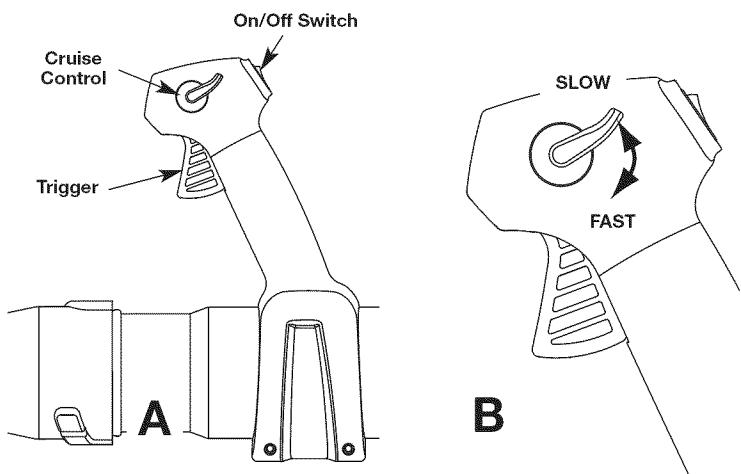

Fig. 15
NOTE: The unit should be started in idle. Do not squeeze the trigger until step 8 (Fig. 15, A).
1. Once the engine has started and warmed up, squeeze the trigger to accelerate the unit as needed (Fig. 15, B).
2. For longer periods of operation and to eliminate possible finger fatigue, move the cruise control toward the **FAST** position to incrementally increase or maintain the unit's engine speed (Fig. 15, B). When the cruise control is pressed, the trigger will recede into the handle.
3. To decrease engine speed, move the cruise control to the **SLOW** position and the trigger will return to the idle position (Fig. 15, B).
2. Press and hold the On/Off switch in the OFF (O) position until the unit comes to a complete stop (Fig. 15, A).
- Use the cruise control (Fig. 15) to keep the trigger depressed while operating to make continuous operation easier.